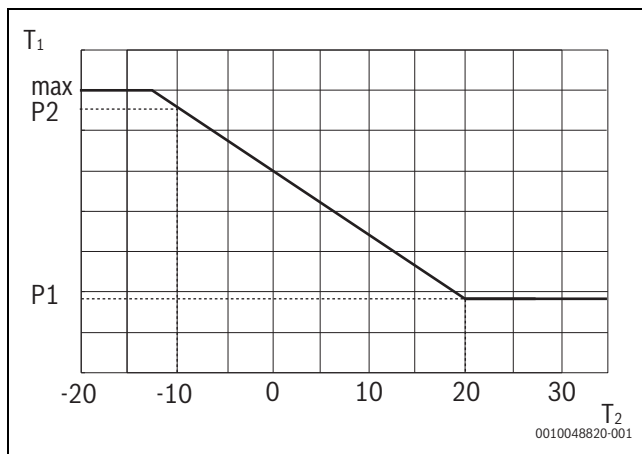

Fig. 62 Heating curve
- ▶ The heating curve can be adjusted in the service menu by changing P1 and P2 to set up a basic heating curve as indicated in Fig. 62